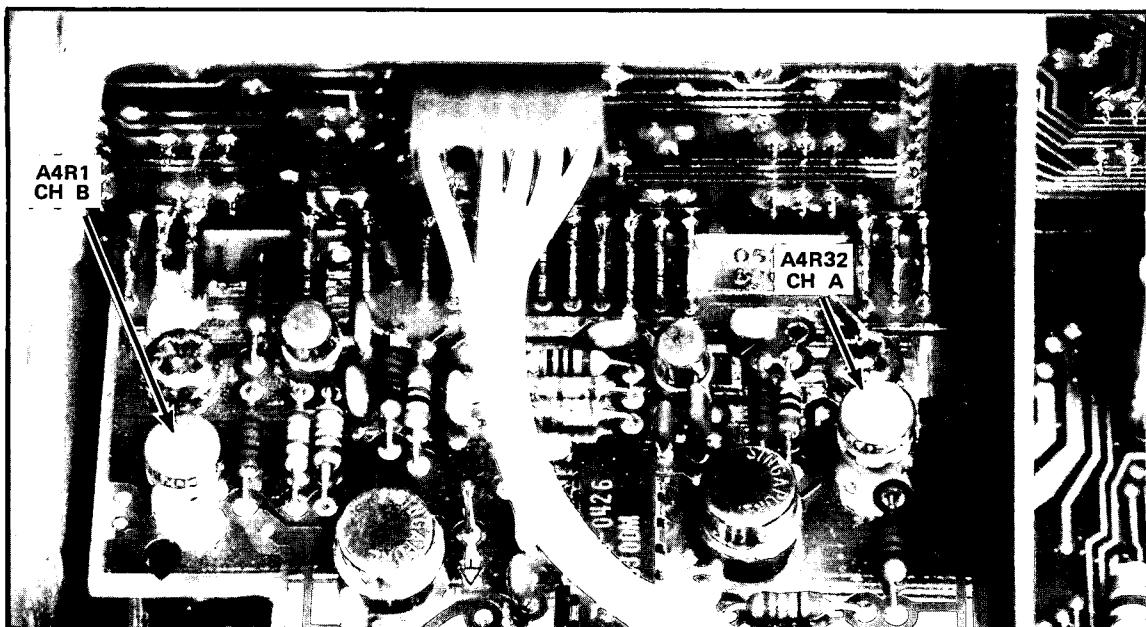

Figure 5-1. A4 Offset Adjustment Location
5-9. Figures 5-1 through 5-8 illustrate the location of all adjustments and test points used in the HP 5316B adjustment procedure.
- 5-11. The input offset adjustments are made to the A4 assembly as follows (see *Figure 5-1*):
- g. Set the Channel A Trigger Level/Sensitivity switch to SENS with the control fully clockwise. The Attenuator and Filter switches should be in the OUT Position; the AC/DC switchs should be in DC (IN).